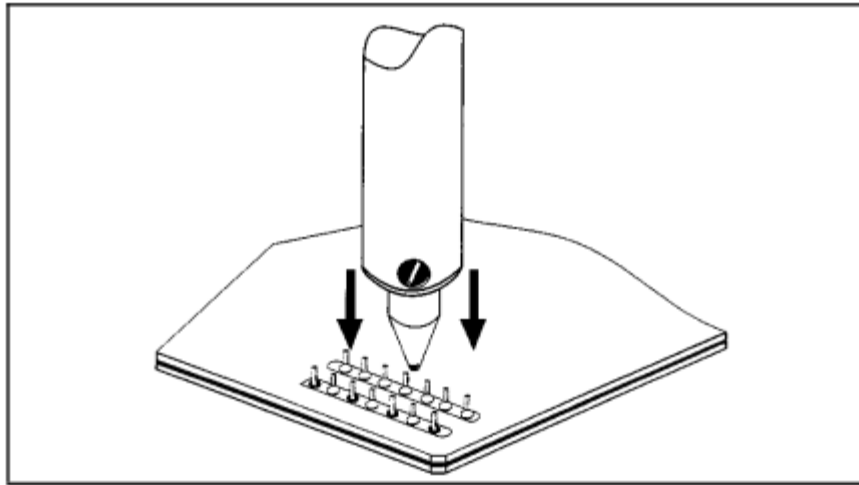
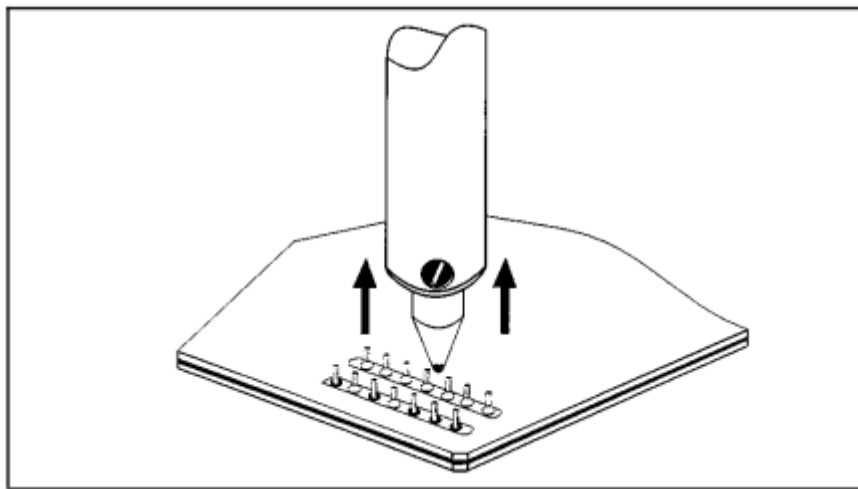

Figure 4 Position Tip
Figure 8 Lift Handpiece
7. Remove battery from PCB 4-4, see figure 4-figure 8;